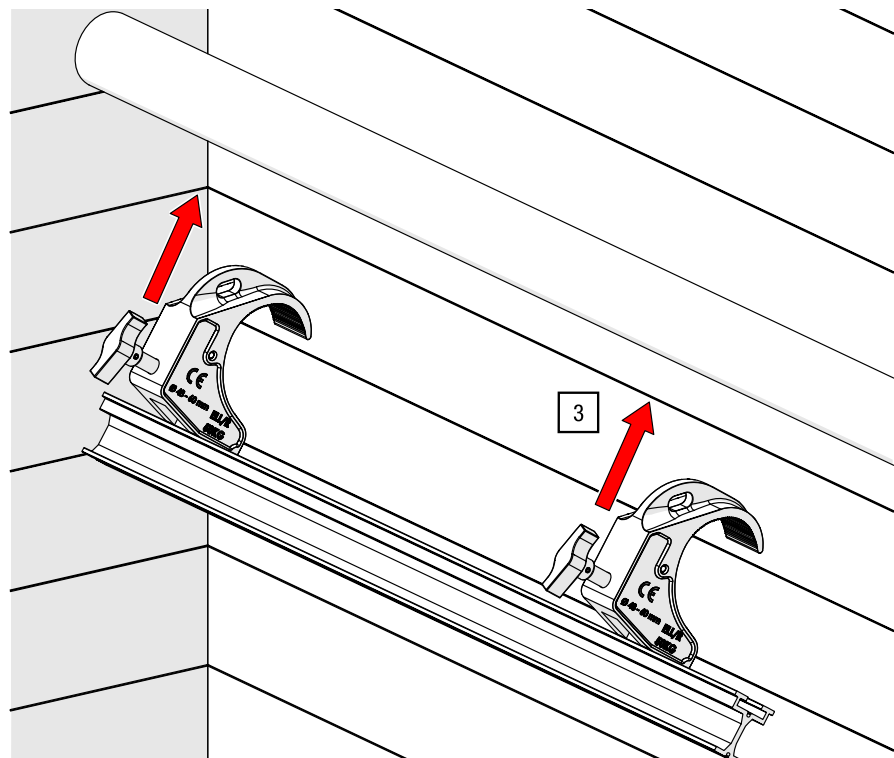

Fig. 59: G-CLAMP direct – Positioning on the pipe
3. Use the wing screw to turn the G-CLAMP hook until it fits over the pipe of the on-site support structure and position it on the on-site support structure (see Fig. 59).